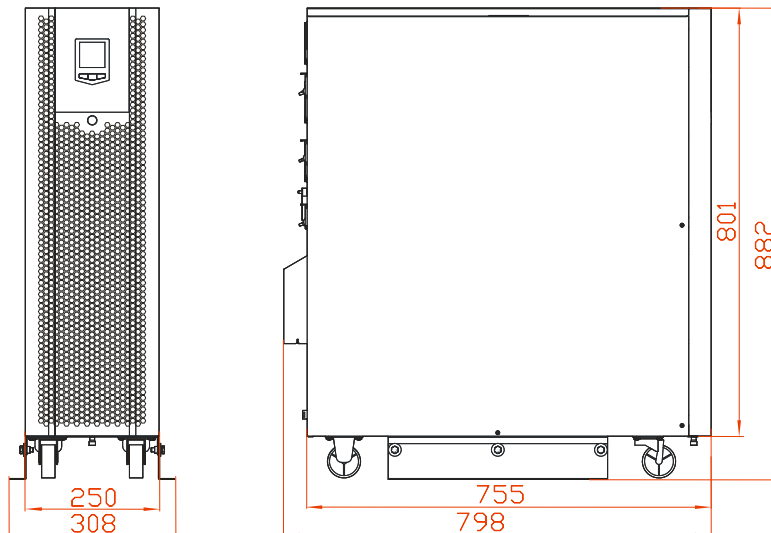
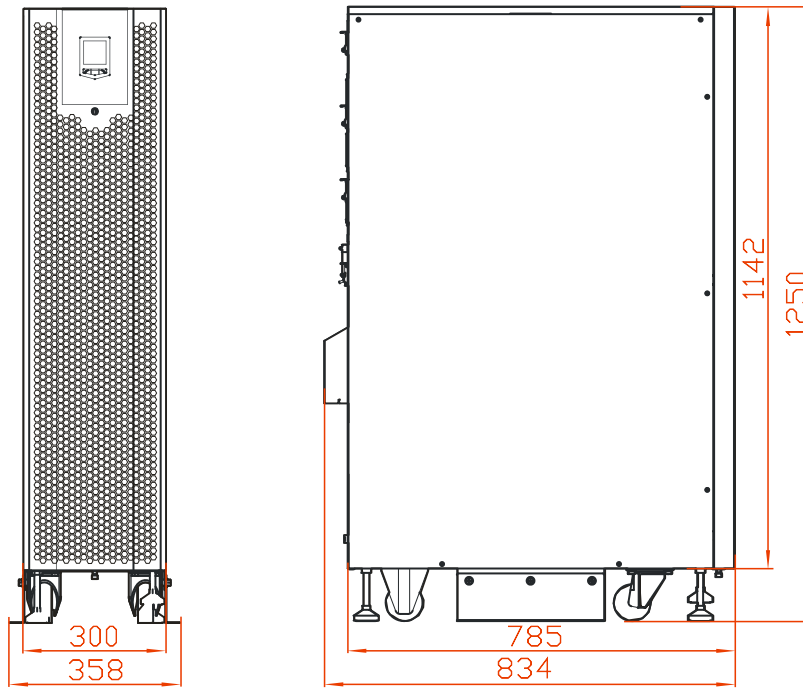

Figure3-6 Outer dimensions of UPS 10/10S/15/15S/20/20S
Figure3-7 Outer dimensions of UPS 30/30S//40/40S
- Step 1 Determine and plan the installation position according to the device size (as shown in Figure3-6, Figure3-7) and install space requirement (see 3.2.3 Install Space).